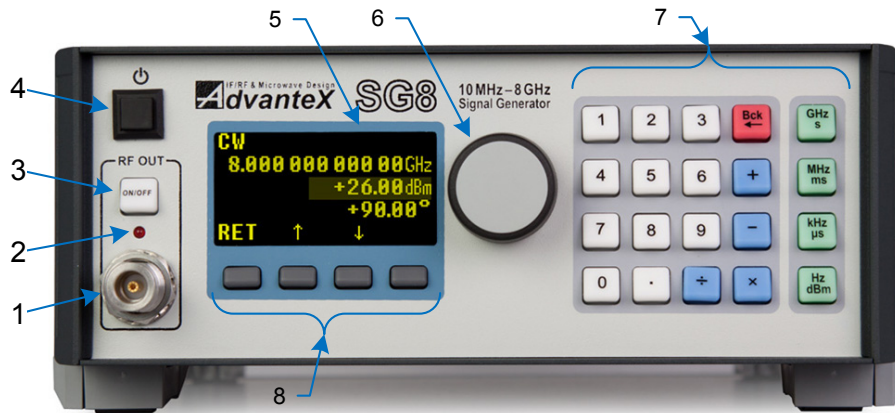

Figure 4: Front panel view
1. Verify that front panel power ON/OFF button (item 4, fig. 4) is turned off (not in depressed position).
Figure 4 shows the front panel view of the instrument. The elements are designated with the following callouts:
Navigation through the menu items (moving to next or previous item, entering to sub-menu or one level up) can be performed by the context menu buttons (see figure 4, item 8), and rotary knob (item 6).
Numerical data entry can be performed either using the keyboard (fig. 4, item 7) or the rotary knob (item 6).